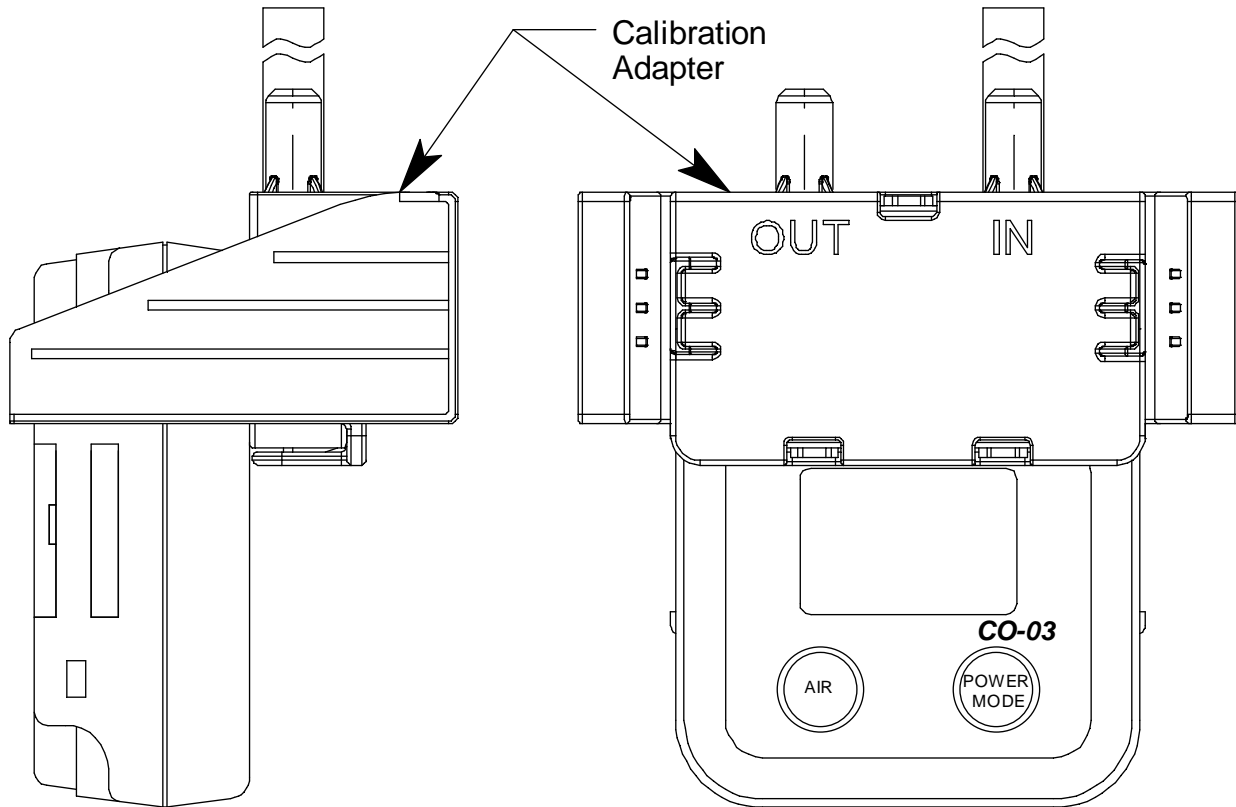

Figure 27: Installing the Calibration Adapter, Auto Cal
9. Hold the 03 Series in place with one hand while pushing the calibration adapter onto the 03 Series' sensor face with the other to avoid moving the 03 Series excessively and losing the connection to the computer. Make sure the calibration adapter is oriented as shown in Figure 27 below.